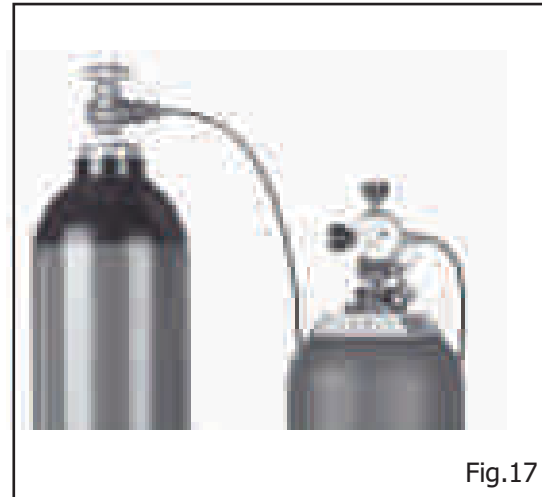

Fig.17
- Fit the connection to nitrogen cylinder. (refer Fig.16 & Fig.17)